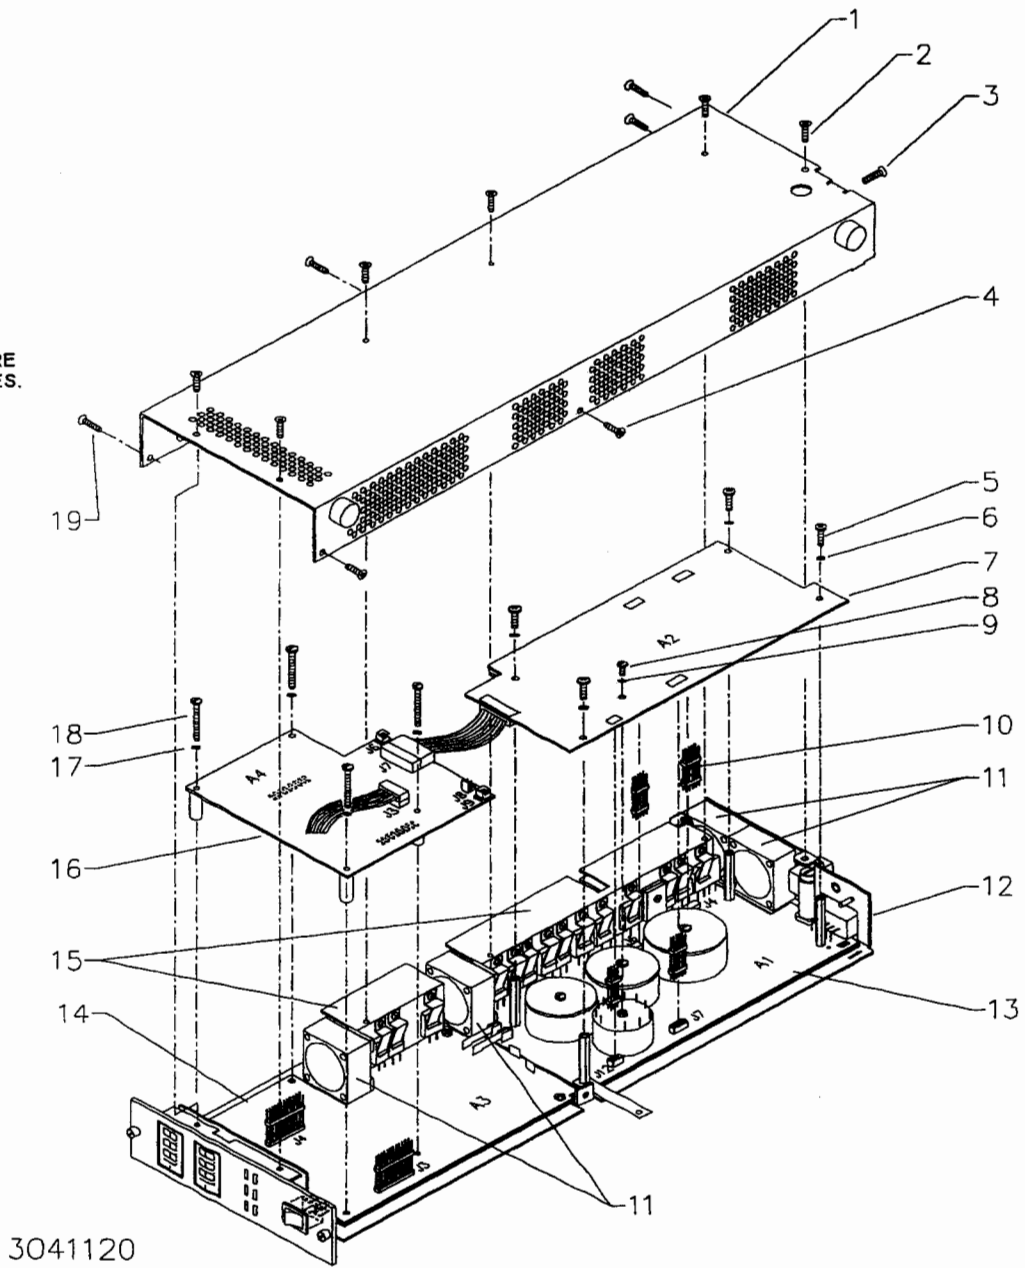

FIGURE 5-1. DISASSEMBLY
5.2.1 CLEANING (REFER TO FIGURE 5-1)
5.3 DISASSEMBLY/REASSEMBLY (REFER TO FIGURE 5-1)
2. Place the MST Power Supply on its left side according to Figure 5-1. Remove the cover (1) by removing four screws (19) from the top of unit, six screws (2) from the side, one screw (3) from the rear, and two screws (4) from the bottom.
NOTE: If the gold connector-header pins between the A1 and A2 boards (see Figure 5-1) separate from their housings, reinsert the pins into their respective connector housings on the A1 board.